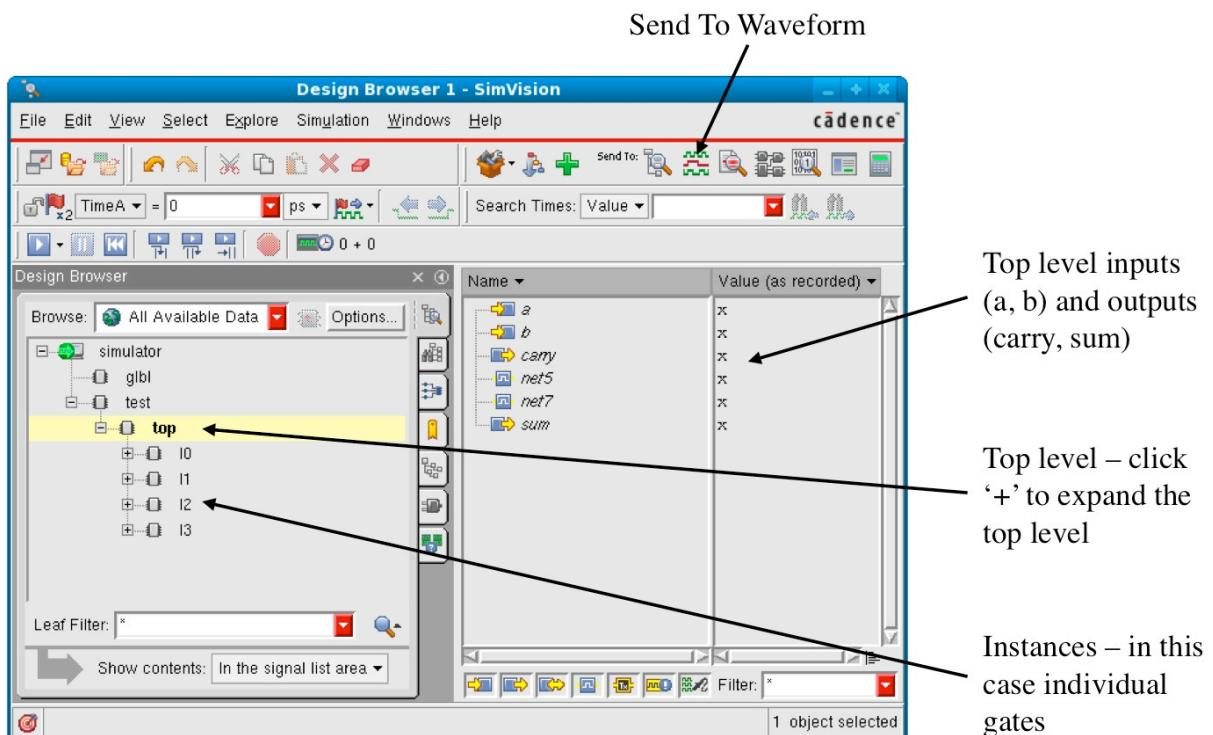

Figure 4.9: SimVision Design Browser
“Design Browser”, which should look as shown in Figure 4.9 (it may well be hidden). If the Design Browser does not start, the most likely explanation is a syntax error in your Verilog simulation file, in which case a message window saying “NC-Verilog Compilation Step Failed...” will have appeared. Click Yes to see the error messages from the compiler, and go back to editing your Verilog simulator file (Stage 2).
The Design Browser shown in Figure 4.9 allows you to browse into the hierarchy of the design in a manner similar to directories. Feel free to expand the top level and explore the instances below.
1. Click the “Send to Waveform” button (see figure 4.9).
You can identify individual gates (labelled in yellow/gold by their instance value) if you expand the top-level component in the left hand pane of the Design Browser (figure 4.9). This would allow you to select any outputs you might be interested in and pass them to the waveform viewer. It is probably better to observe the status of wires than gate outputs, as described below.